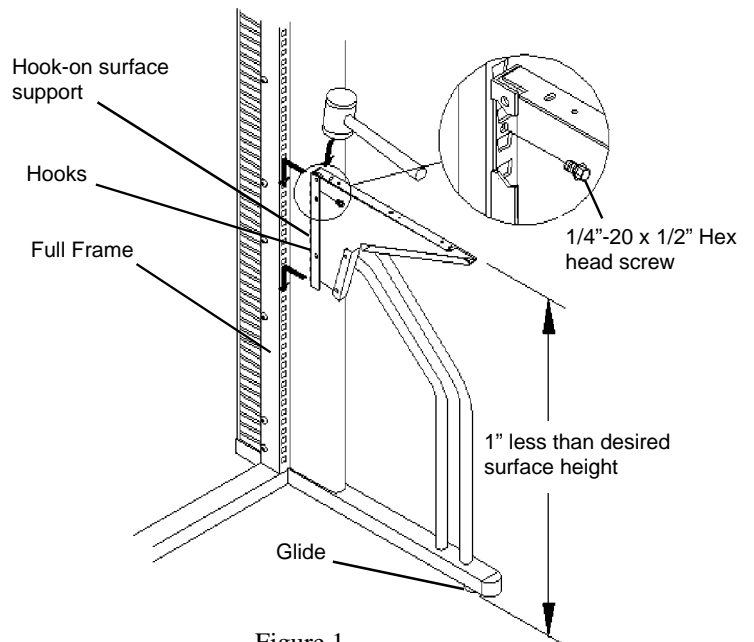

Figure 1.
1. Remove the two **Hook-on Top Supports** from the carton. Hook them to the Full Frame at 28" (top of the bracket) for a 29" finished height (or 39" for stand-up height). To assure the hooks are properly seated, tap the top rear corner with a plastic or plastic mallet. See **Figure 1**.
Locate the small hole inside the back of the Top Support and insert the 1/4"-20 x 1/2" Hex head screw with the 3/8" socket. See **Figure 1**.